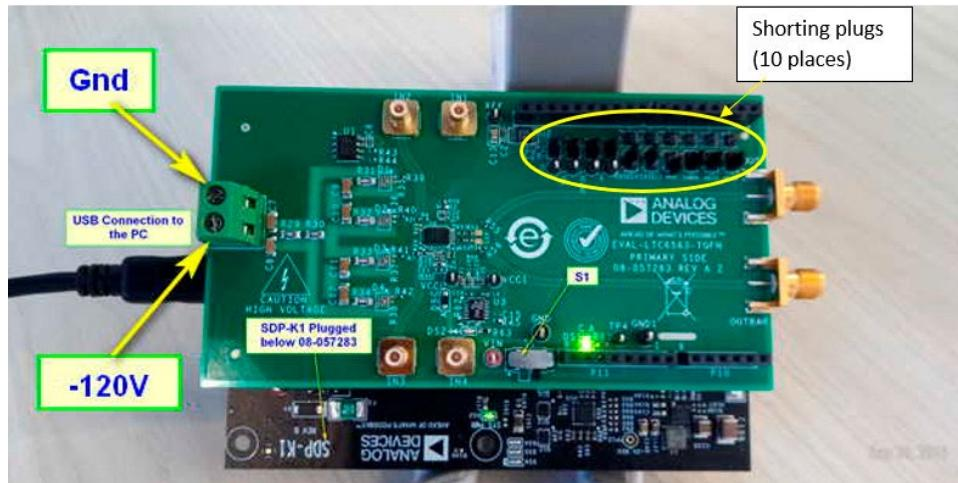

Figure 4. SDP-K1 Connection (WARNING: HIGH VOLTAGE PRESENT!)
3. Plug the SDP-K1 onto the bottom of EVAL-LTC6563-TQFN as shown in Figure 4 (if not already).
- a. Move EVAL-LTC6563-TQFN S1 switch to the right (towards connector P11, see Figure 4) to power the EVAL board using the SDP-K1 if not already.
7. Apply the external $-120V$ DC power supply to P7 (pin 2) with pin 1 tied to power supply ground. This is the appropriate bias voltage for the APDs installed on the board. The connector and passives are rated up to $300V$. See Figure 4 for the proper P7 high voltage polarity connection.
2. Apply the external -120V DC power supply to P7 (pin 2) with pin 1 tied to power supply ground. This is the appropriate bias voltage for the APDs installed on the board. The connector and passives are rated up to 300V. See Figure 4 for the proper P7 high voltage polarity connection.